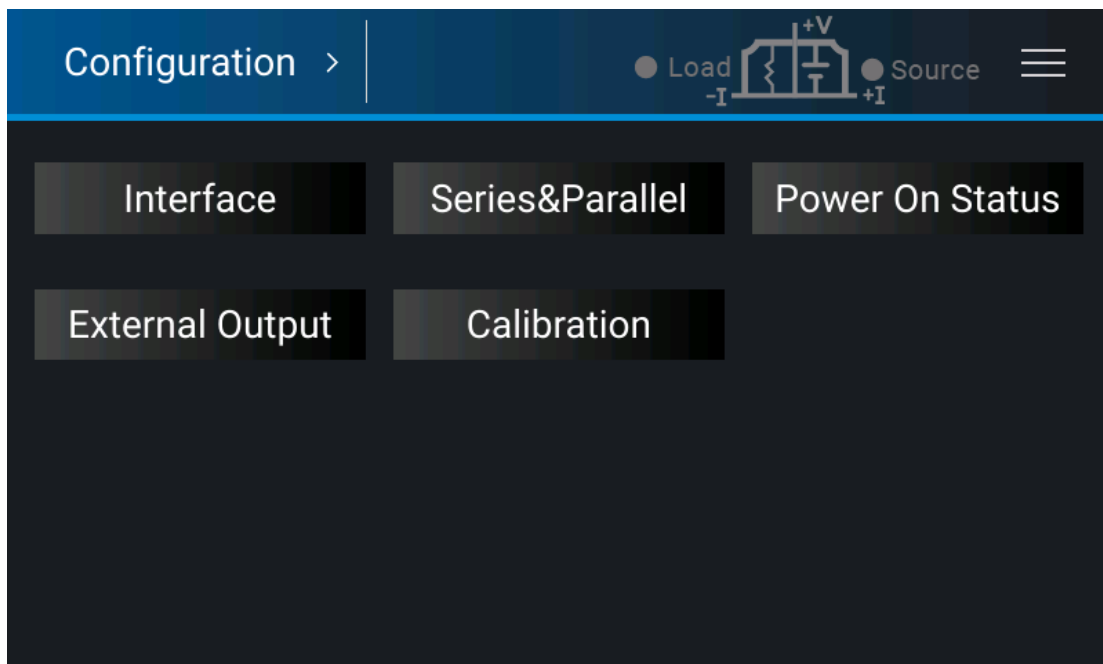
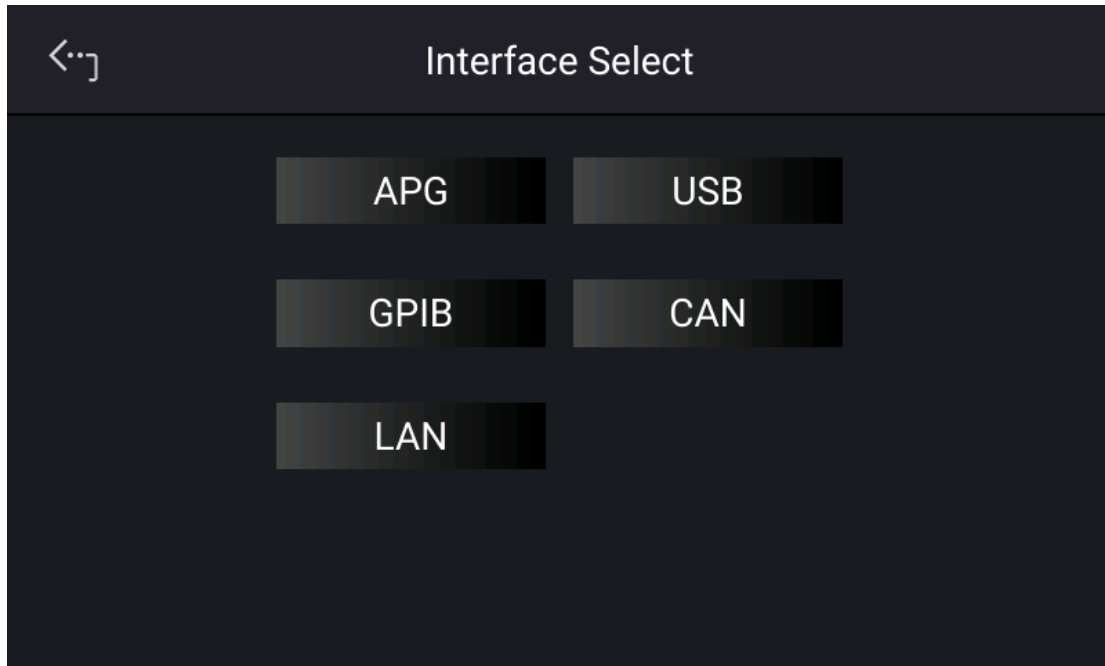

Figure 3-37
Figure 3-38
Tap Configuration in Menu page and select Interface and APG as shown in Figure 3-37 and Figure 3-38.
1. Tap “Menu”, “Configuration” and “Interface:” to select LAN to as shown in Figure 3-37, Figure 3-38, and Figure 3-40.